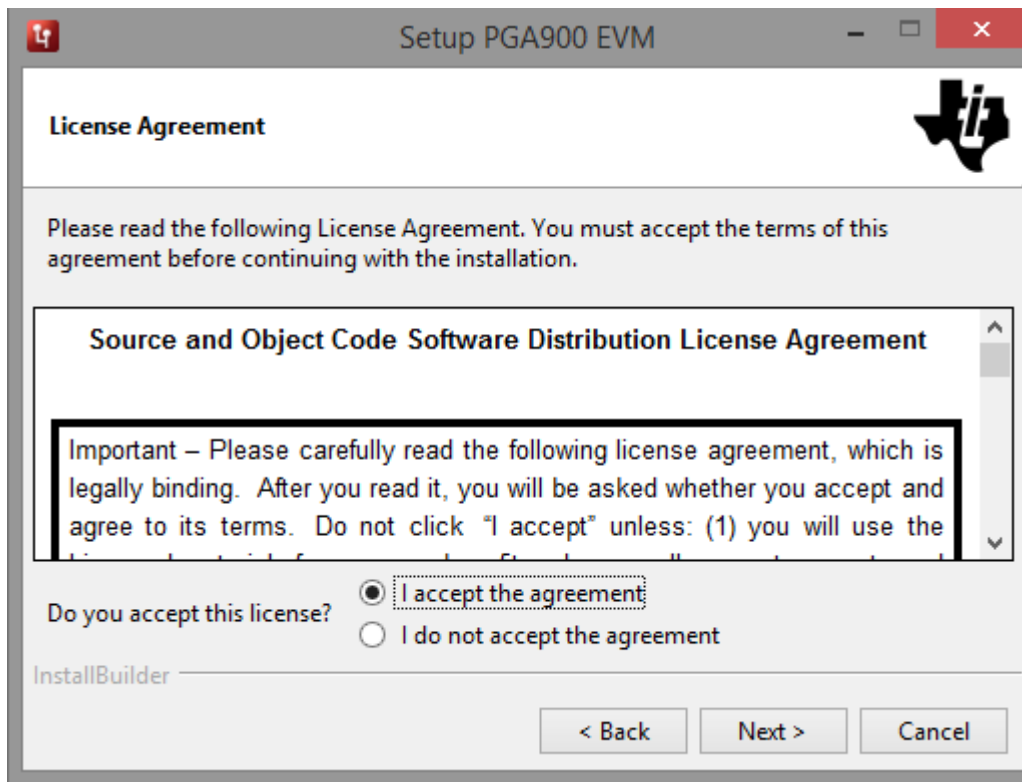

Figure 1-3. GUI Software Evaluation and Internal Use License Agreement
2. The license agreement for PGA900 GUI appears as shown in Figure 1-3. Read through the agreement and enable the “I accept the agreement” radio button and click the **Next >** button